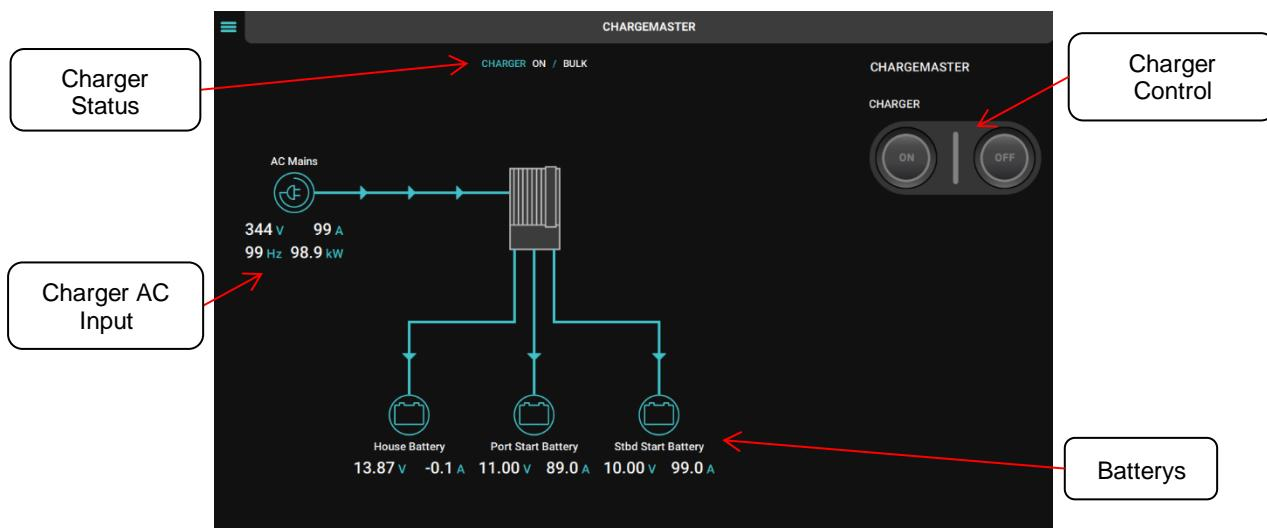

Figure 9 ChargeMaster Example
2. Select an available metering channel for the Charger/Inverter Status from the MBI (MasterBus Bridge Interface). This monitoring field will repeat from MasterBus the state of the Inverter and/or Charger e.g. Float/Absorption/Bulk. (See Figure 9 and Figure 10 for examples.) The MBI has a total of 16 metering channels.